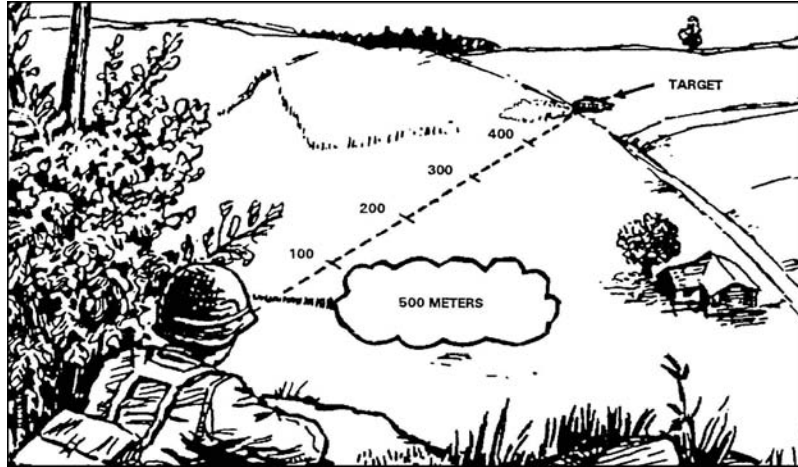

Figure 071-311-2130-1. Range estimation
3. Determine range to target (figure 071-311-2130-1).